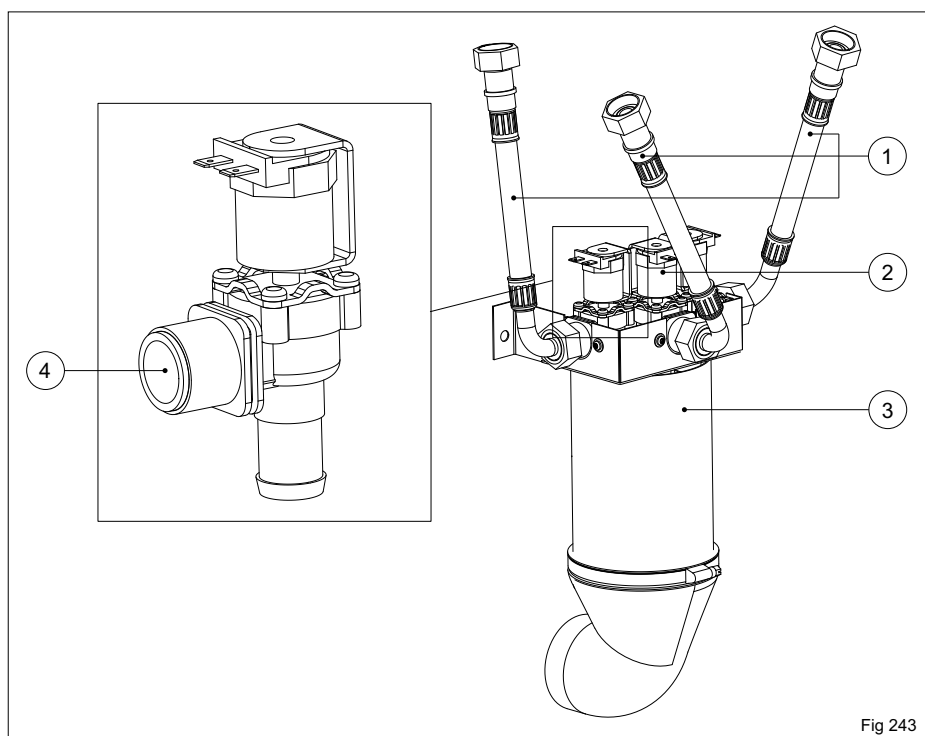

Fig 243
- ▶ Dismantle armoured tube at the valve (Fig. 243 Pos.1)
- ▶ Pull out pre-filter and clean (Fig. 243 Pos.4)